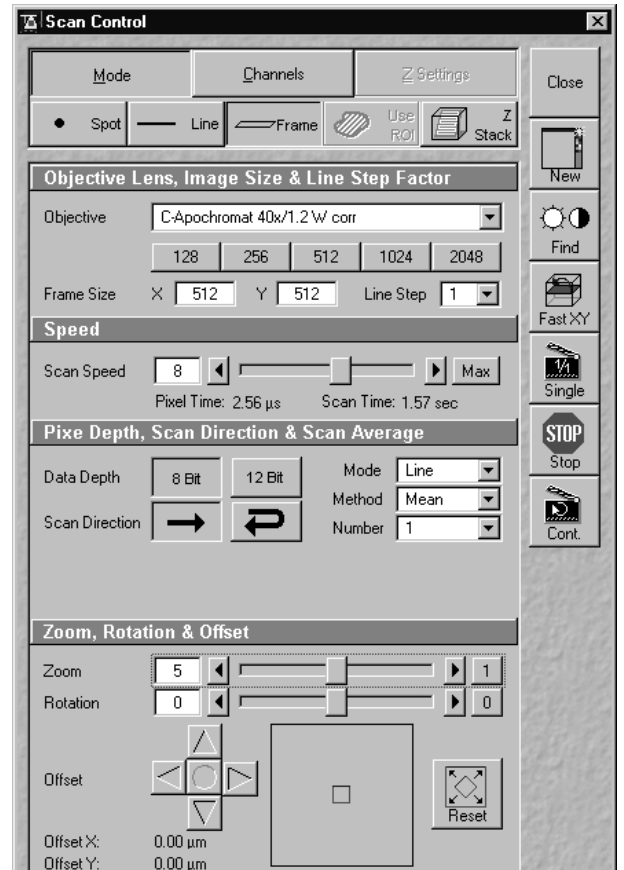

Fig. 5-394 Settings at the LSM control
- Set the following LSM parameters in the **Scan Control** (see Fig. 5-394):